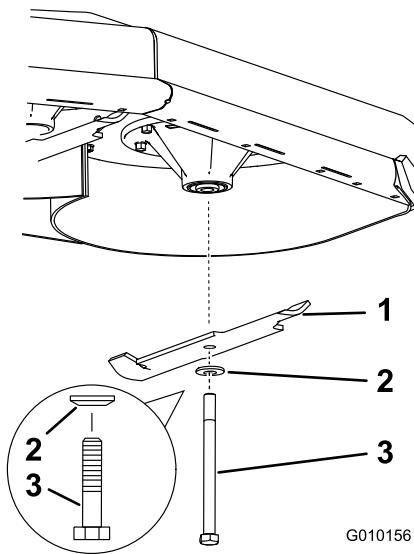

Figure 15
Important: The sail part of the blade (i.e., the turned up section) must face the inside of the mower (Figure 15).
1. Install the new blades to the spindles with washers and blade bolts that were previously removed (Figure 15).